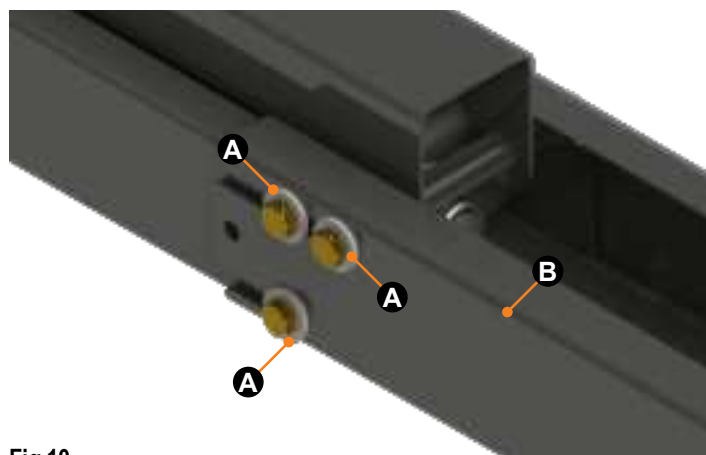

Fig.10
3. Slide the hinge end (**Fig. 9A**) into crossmember (**Fig. 9B**) and position in place (**Fig. 10**) to approximate width chosen.